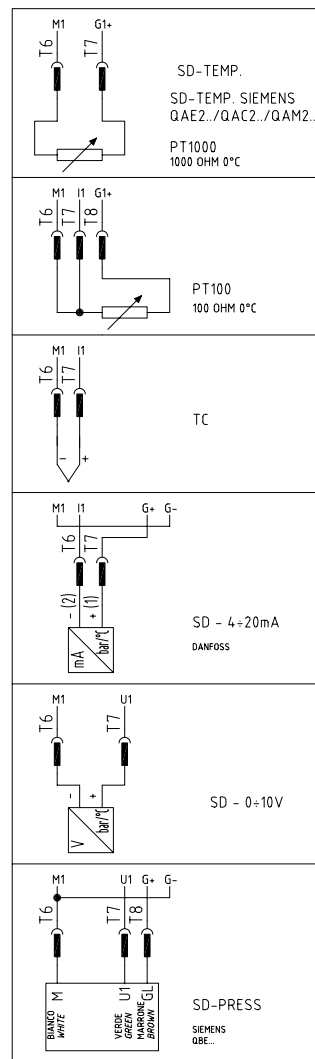

Fig. 20: Probes connection
- 3 In case of modulating burners, the 5, 6 and 7 terminals, on the **MA** terminal block, are already connected to the regulating modulator (mod. **RWF40**). A 4-pole plug coming out from the electrical panel is provided for the temperature and pressure probes connections (see Fig. 20).